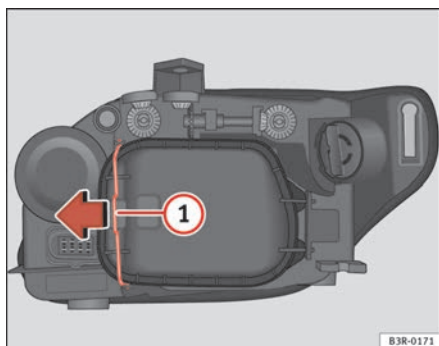

Fig. 205 Side light
Although it is not necessary, previously remove the rigid cover ⇒ page 261, fig. 205 for easier day light bulb changes. ■
- Move the brace ⇒ fig. 205 ① in the direction of the arrow and remove the rigid cover, separating the brace side and then removing the two tabs from the other end of the cover.